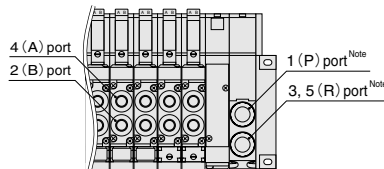

Figure 7
2. Install piping carefully in regards to the locations of each connection port (see Figs. 7, 8).